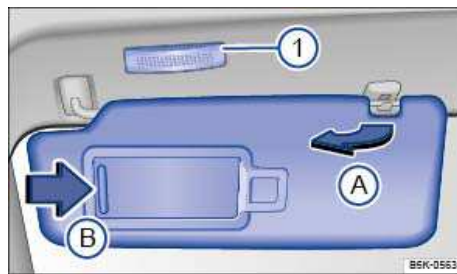

Fig. 77 In the headliner: Sun visor.
- Lift it out of the retaining clip ⇒ fig. 77 (A) and swivel it over toward the door.